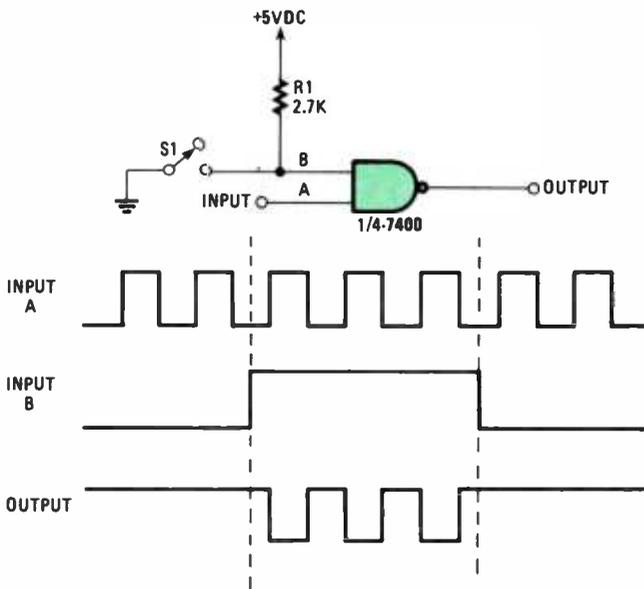

Fig. 3—NAND gates can be used as electronic switches, but like their cousins the NOR gates, they invert the input signal. However an AND will not.
To get an idea how the FET works, take a look at Fig. 3 which shows what happens to the FET if we connect the source to the gate and apply a positive voltage to the drain. The PN junction in the vicinity of the drain is going to be forward-biased and current is going to flow into the substrate. That creates an electron shortage and reduces the amount of current that can flow from the drain to the source. The amount of current that can flow through the channel is directly related to the field created between the gate and the drain—hence the name field-effect transistor. Reverse biasing the gate-source junction increases the depletion layer, decreasing current.
**Fig. 3**—As current flows through the channel, it becomes depleted of electrons. The region formed by that effect is the depletion layer. It eventually limits the current flow.
The 7400 device is a TTL, quad, two-input, NAND gate. Like its 7402 cousin, the 7400 can be used as a digital switch (see Fig. 3). The NAND gate obeys the following pair of rules: If either input is low, then the output is high; and both inputs must be high for the output to be low.
When you find one or more UHF channels to be weak, try adding ears to your antenna (see Fig. 3). I usually start with oversize pieces of foil, which I can fold to shorten or narrow them. Also try bending one forward and one backward. Ears change the antenna directivity in the UHF band, channels 14 and up. You can think of ears as a small antenna connected in parallel with the main antenna. I have used ears to get good reception from channel 2 through channels 60 and 66 and all on a single lead-in.
**Fig. 3—Ears can be added to the TV antenna to enhance reception, but remember that they will need careful adjustment for proper functioning. To adjust them all, you need do is fold them to the dimensions that give the best reception.**